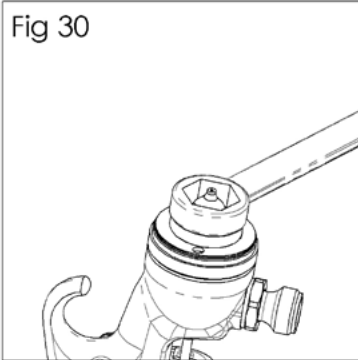

Fig 31
5. Remove spray head (9) and seal (10) (See fig 31).
9. Fit the spray head (9), making sure the pin is engaged into the hole in the gunbody. (See fig 31).